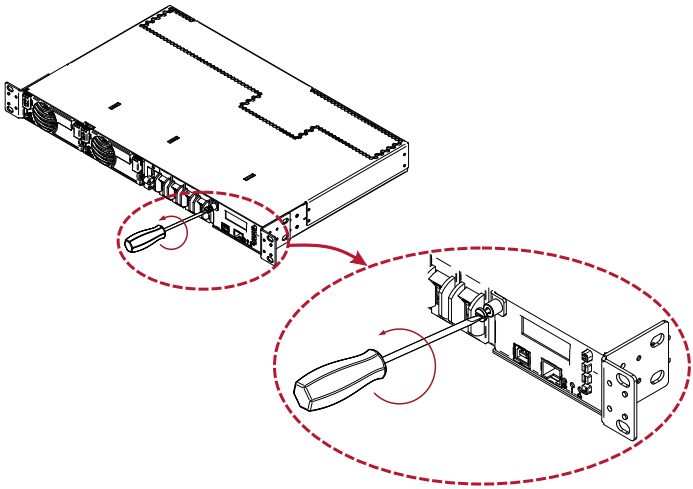

Figure 7-1 Unlocking the Controller
1. Loosen the front screw in the top left corner of the controller front panel using a flat screwdriver, see Figure 7-1.